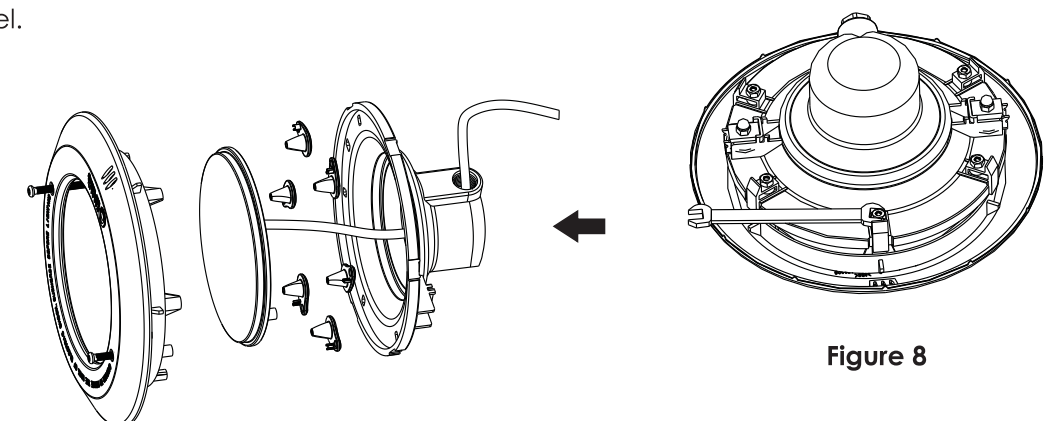

Figure 8
- 2) Unscrew the 6 nuts which secure the lid to the base of the underwater light as shown in figure 8.